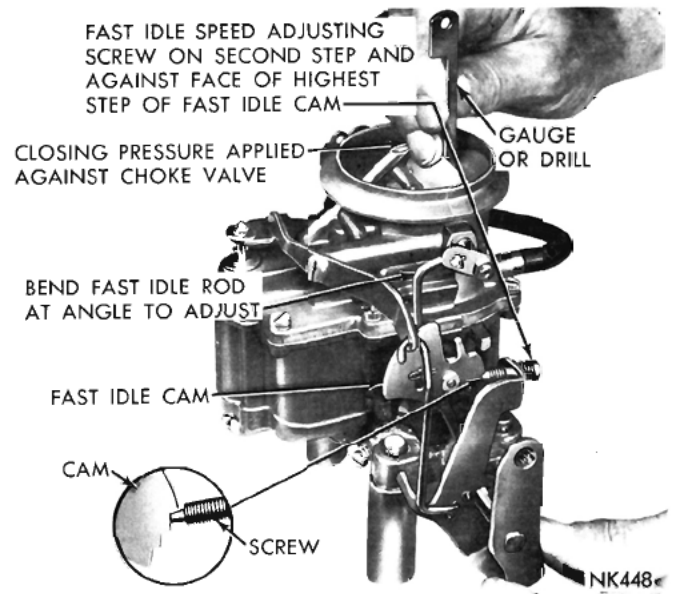

Fig. 17—Fast Idle Cam Position Adjustment
(1) With the fast idle speed adjusting screw contacting the step on the fast idle cam, shown in (Fig. 17), move the choke valve toward the closed position with light pressure. Insert a  $\frac{9}{64}$  inch drill or gauge between the choke valve and the wall of the air horn.
(2) An adjustment will be necessary if a slight drag is not obtained as the drill or gauge is being removed.
(3) If an adjustment is necessary, bend the fast idle
rod at the upper angle, using Tool T109-213, until the correct valve opening has been obtained. Refer to (Fig. 17).